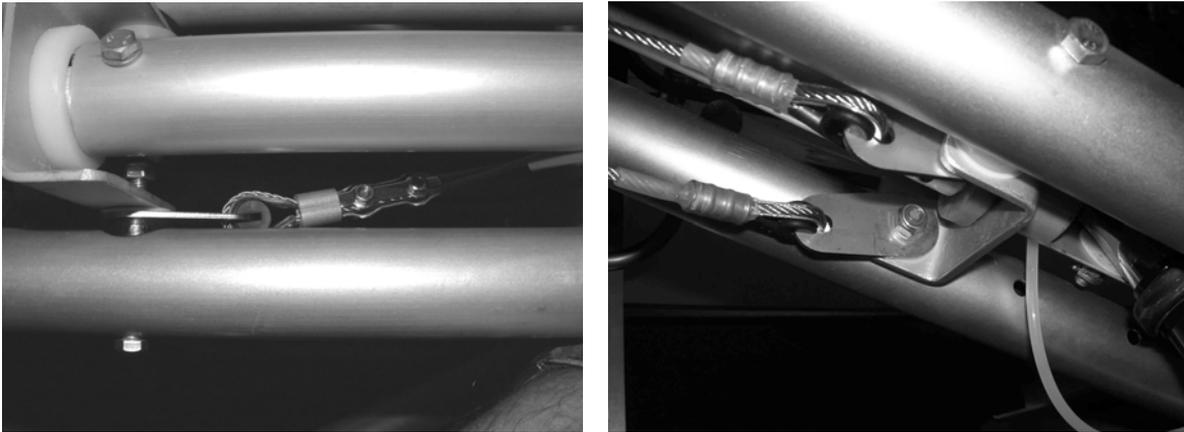

Figure 112; rudder stop cables attached to rear stick pivot, standard and optional arrangements.
- i) The other end should be fitted to the bolts supporting the rear stick pivot, Figure 112, with the cables crossing: the cable fitted to port side pair of pedals should fit on the starboard side of the rear stick pivot, and vice-versa.